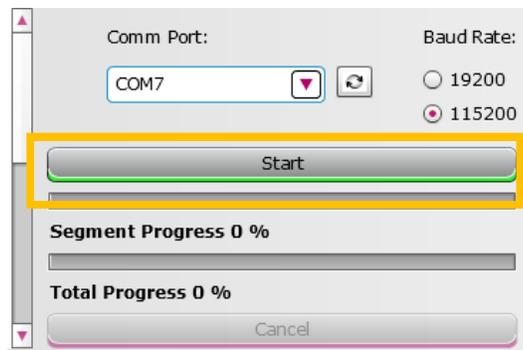

Figure 1.9
9. Press the 'Start' bar on the flash upgrade screen. The underlining color of the 'Start bar' will turn green to indicate the panel is ready to be flashed. (see Figure 1.9)